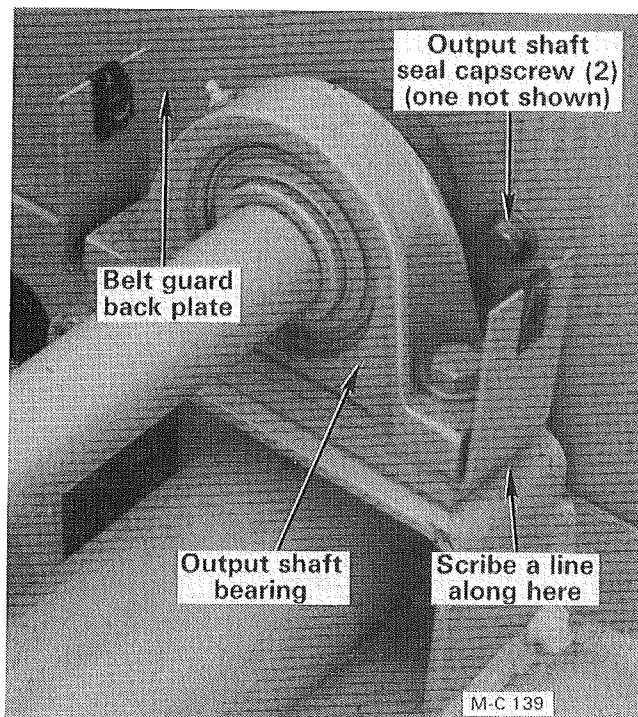

Figure 26
- C. If the pulleys are aligned, scribe a line on the output shaft bearing mounting bracket as shown in Figure 26 to establish the location of the bearing when reassembling.